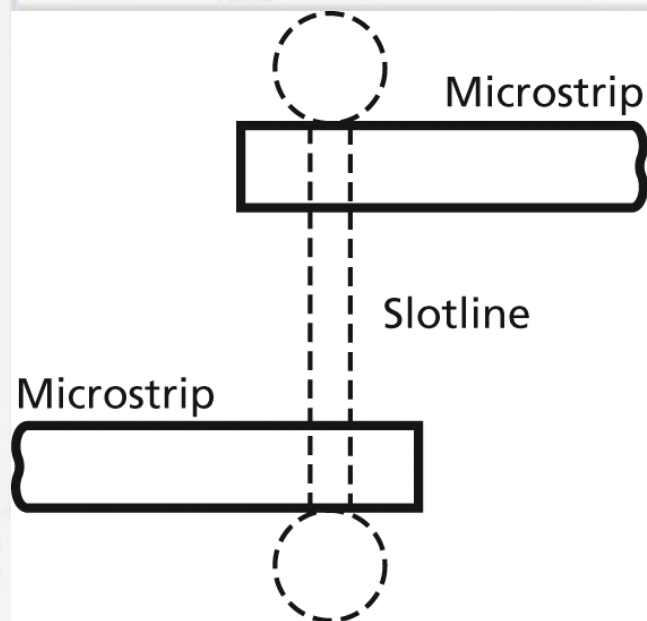

Fig 12. Two microstrip-slotline transitions connected back to back for 180° phase change [15]
- ◆ Fig.12 shows a broadband (decade bandwidth) pulse inverter. Assuming the upper microstrip to be the input, the signal leaving the circuit on the lower microstrip is inverted since this microstrip ends on the opposite side of the slotline compared to the input. Printed slotlines are also used for broadband pickups in the GHz range, like these applied in the GSI/Fair stochastic cooling systems*.